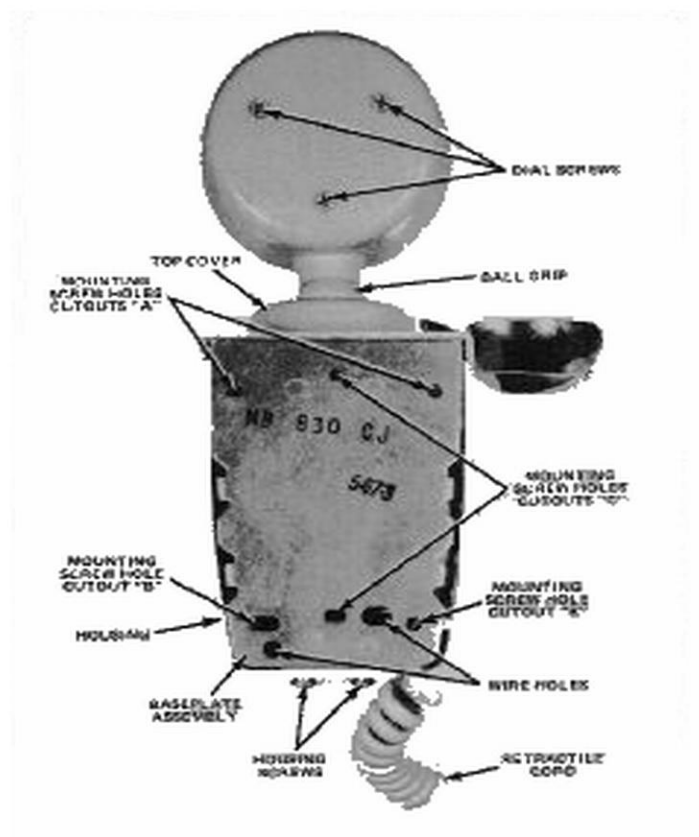

Figure 6. Rear View of Type 183 Telephone.
- (b) Install the two housing securing screws located on the bottom of the housing (Figure 6).